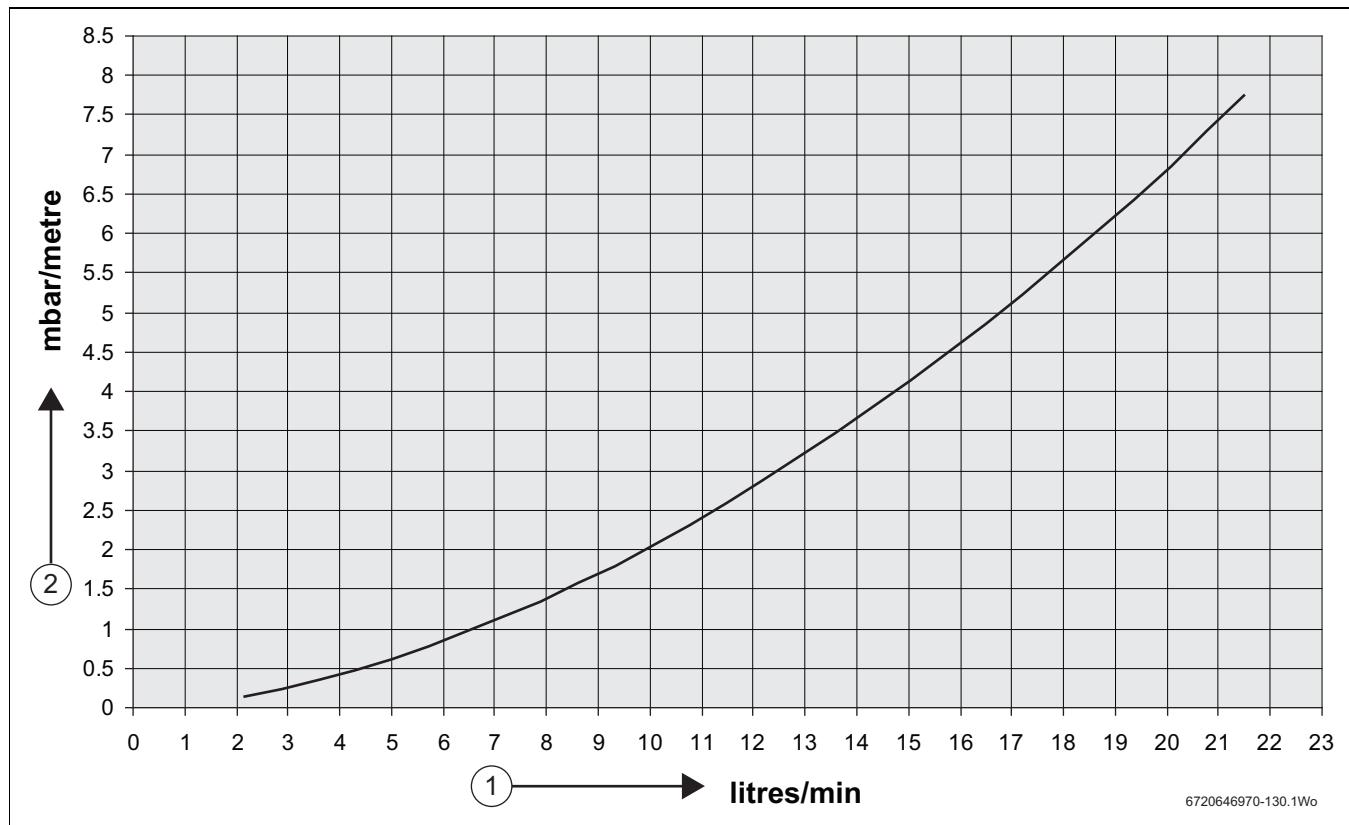

Fig. 48 Pressure and flow rate in the hybrid manager (internal unit)
8. What is B the pressure drop of the equivalent length of additional pipe work in mbar? - refer to figure 48, Pressure drop/Flow rate